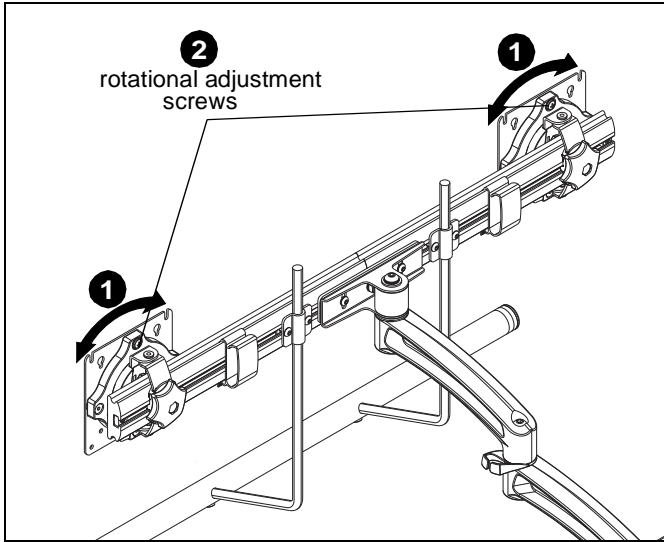

Figure 12
1. The monitor may be adjusted 90 degrees in either direction in order to provide a portrait view of the monitor. (See Figure 12)
2. Use Phillips screwdriver to adjust rotational adjustment screw to adjust rotational tension. (See Figure 12)